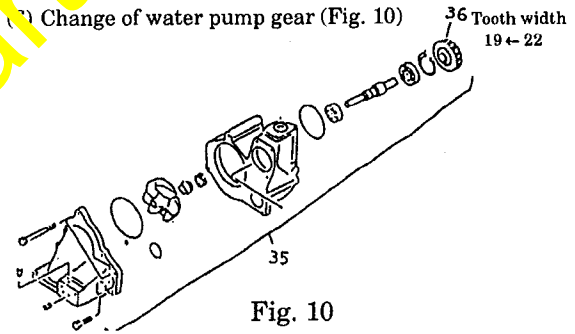

Fig. 10
(6) Change of water pump gear (Fig. 10)